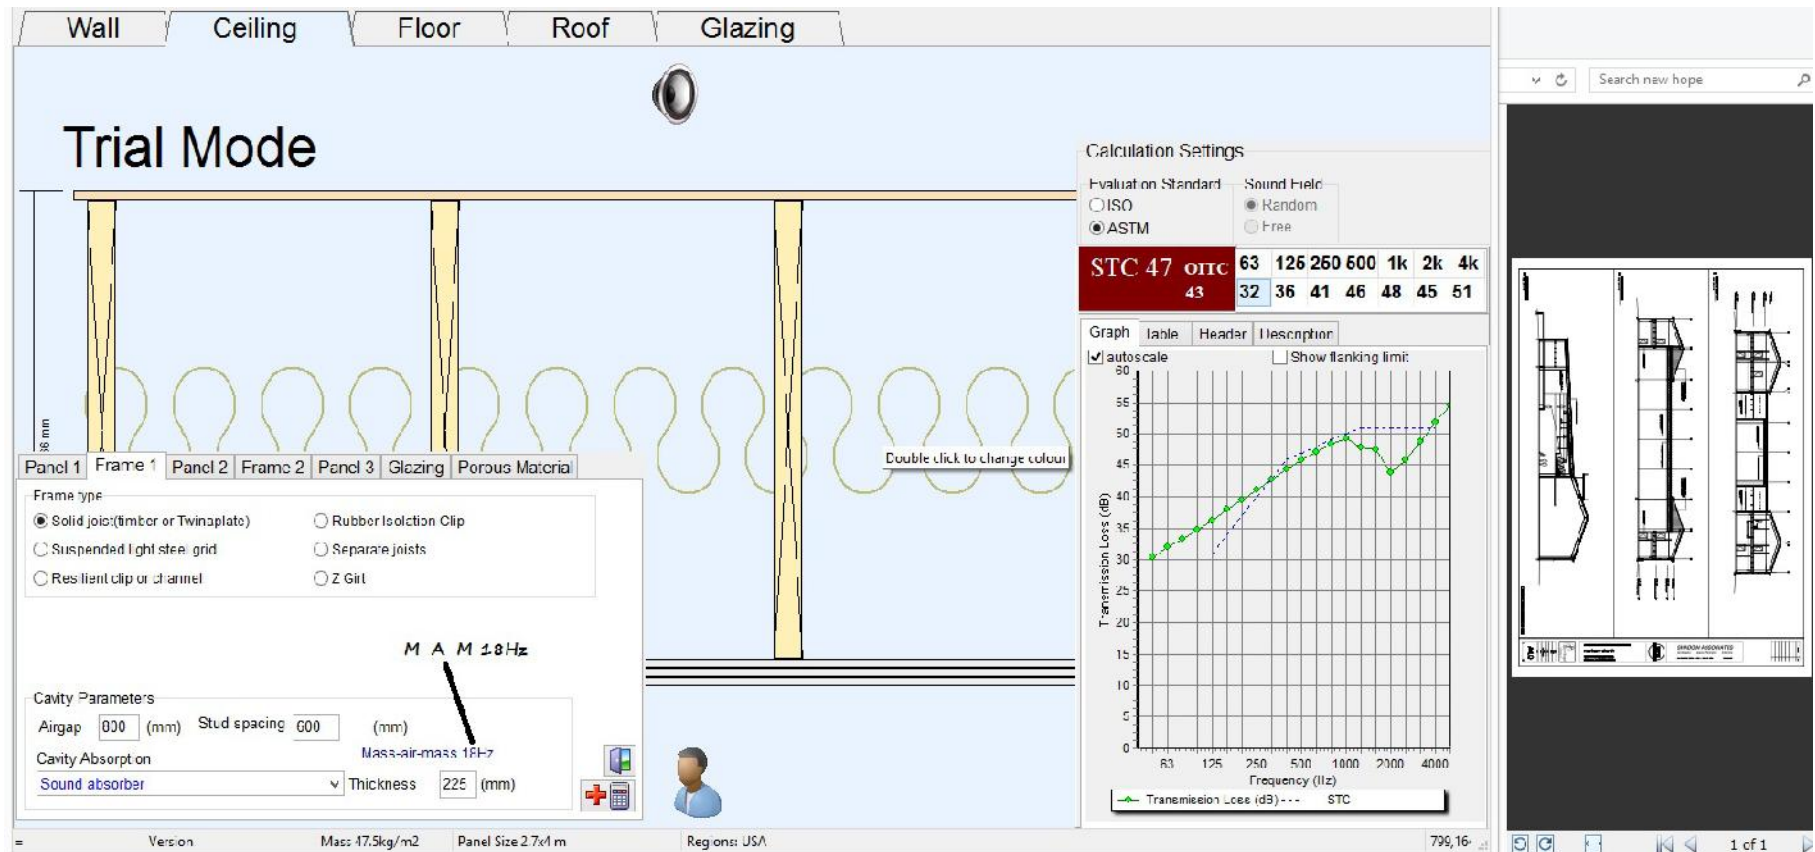

Figure 19
It is known that the addition of multiple drywall veneers is likely to dramatically change the low frequency (LF) response in the worship space. Specific studies were performed that allowed more precise surface characteristics within the high-level acoustical modeling program. Figure 19 is one such study. It is exposing the M-A-M (mass-air-mass resonance of the triple layers of 5/8" type X drywall with ~24" ceiling joists and plywood/steel upper layers. The resulting M-A-M is 18Hz. That means that 18Hz will be very efficiently absorbed. Corresponding studies were done for all wall systems and proper data used for specific surfaces in the acoustical model.